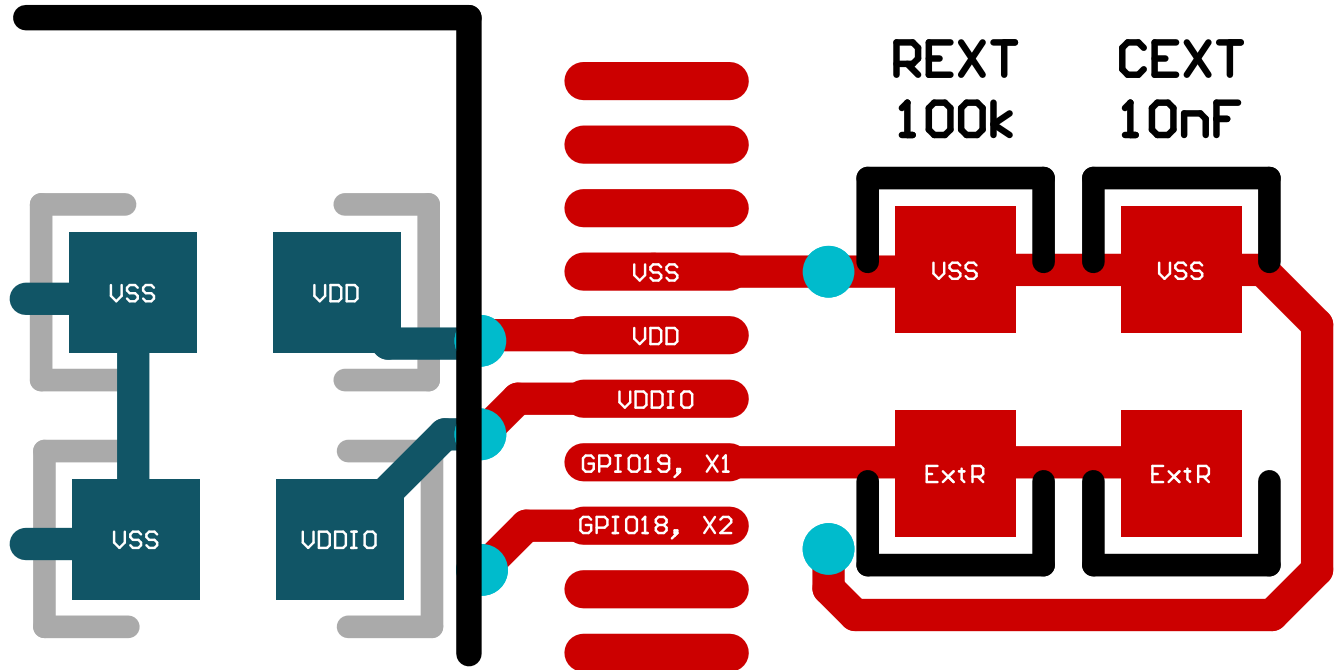

Figure 6-19. ExtR PCB Layout Example
- VSS guard trace is recommended around the ExtR trace as shown in Figure 6-19